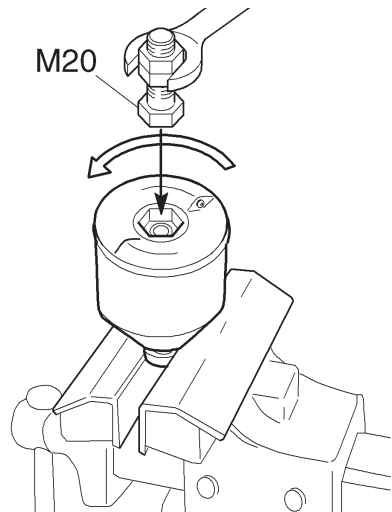

Figure 3
- If the nut is jammed, clamp the nut in a vise and turn the rotor three turns counterclockwise by hand or with a wrench (Figure 3).